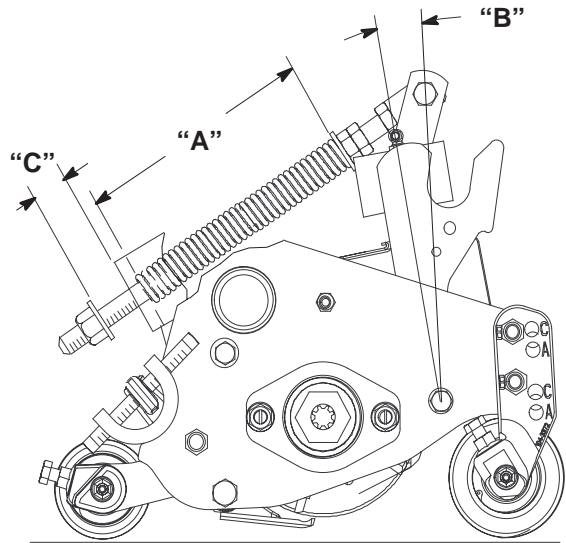

Figure 15
The Turf Compensation Spring (Fig. 15), connecting carrier frame to cutting unit, controls the amount of fore-aft rotation available for the cutting unit
1. Tighten lock nut on rear of spring rod until the gap (C) between rear of spring bracket and front of washer is 1.25" (32 mm) (Fig. 15).
2. Tighten hex nuts 'A' on front end of spring rod until the compressed length (A) of spring is 6.25 (159 mm) (Fig. 15).